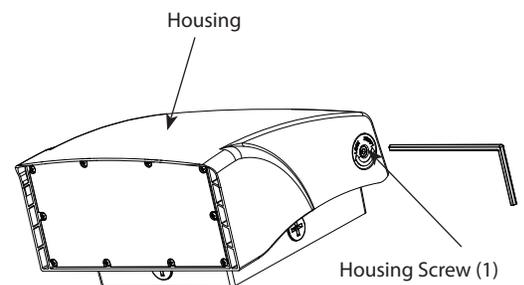

Fig: 1
1. Using an Allen Wrench loosen (1) Screw on Housing side as shown in Fig. 1.
9. Lower Housing Cover and secure with (1) Screw using an Allen Wrench as shown in Fig. 1.